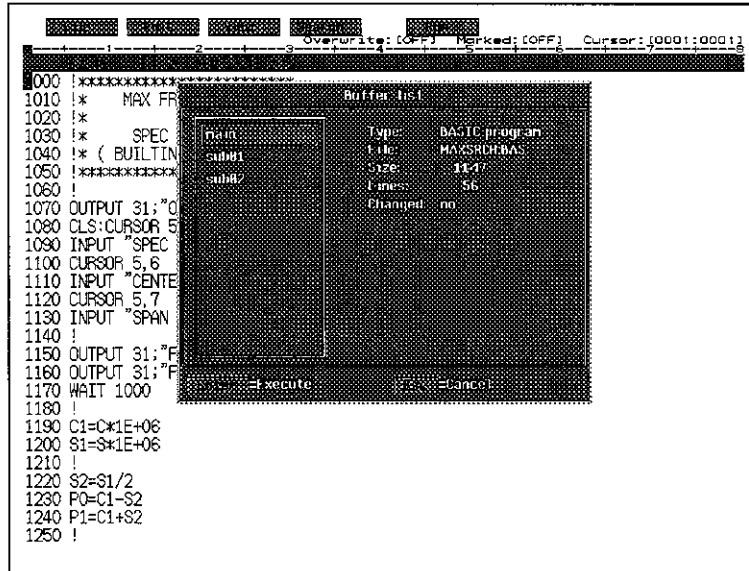

Figure 7-1 Dialog Box of Buffer list ... Command
When the **Buffer list ...** is executed, a dialog box as shown in Figure 7-1 appears. Select a file to be edited.
- ① Execute the **Buffer list ...** command of F3 : View menu, a dialog box as shown in Figure 7-1 appears.
- ② Execute one of the following operations after display the target buffer name in high - light with ←, →, ↑ or ↓ keys.